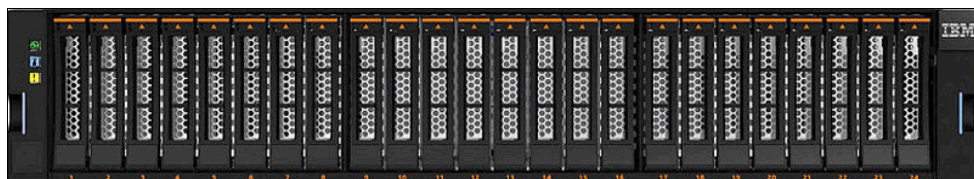

Figure 1-21 2145 SFF expansion enclosure
- Figure 1-21 shows the small form factor (SFF) expansion enclosure, which can hold twenty-four 2.5-inch drives and is 2U high.